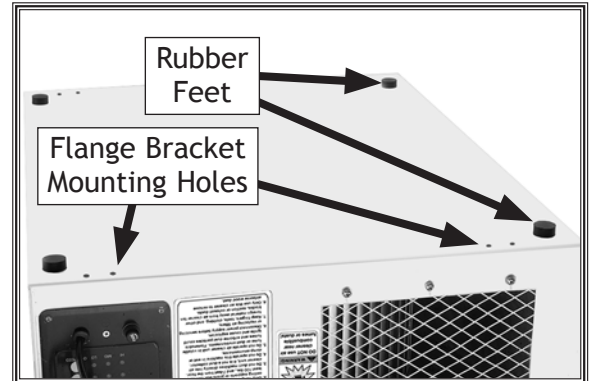

Figure 11. Rubber feet correctly installed.
2. Expose sticky backing on rubber foot and apply foot to bottom of air filter unit (see **Figure 11**). Repeat for each foot.